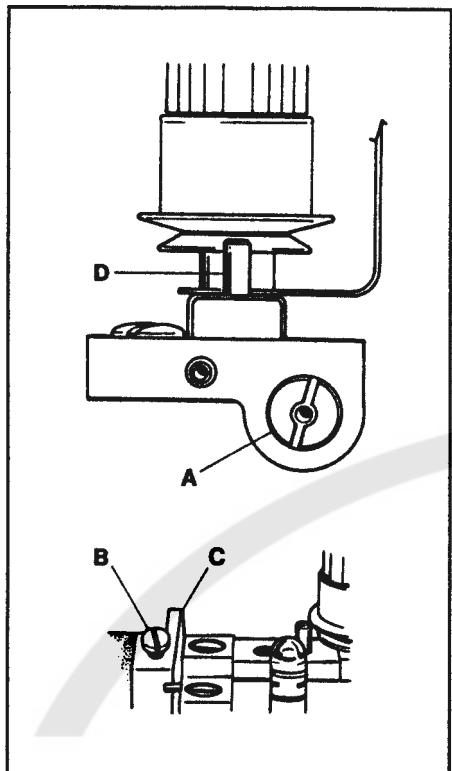

FIG. 36
The tension release should start to function when the presser foot has raised approximately $1/32"$ (0.8mm) above the surface of the throat plate and be entirely released when the presser foot has reached its highest position. Insert a large screwdriver into slot on the right end of shaft (A, Fig. 36), loosen screw (B) in lifter lever (C) and turn the screwdriver to raise or lower pins (D). Tighten screw (B).